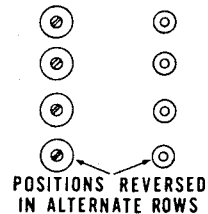

Figure 17. Signal Electronics Adjustment Locations
following applicable alignment procedure be performed to insure optimum performance of the tape recorder. All controls are accessible from the front of the console by opening the two doors below the transport. A chart is located on the back of one of these doors that is an aid in locating the circuit boards for each channel, and their associated alignment controls and test points. This chart is reproduced in figure 17.
3. Start the recorder in the RECORD mode, and adjust the record head azimuth screw (see figure 17) for minimum phase error. Sweep the input oscillator frequency over the range of 30 Hz to 15 kHz while maintaining an input level of +4 dBm. Check each combination of any two tracks, and optimize the phase error for less than 90 degrees.